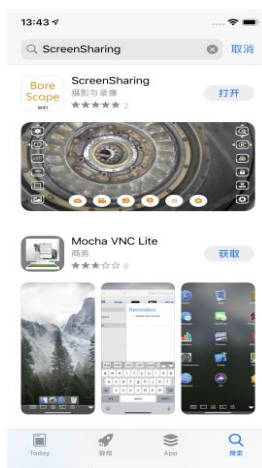

Figure 8-31
1. Download and install the "ScreenSharing" APP from the App Store (as shown in Figure 8-31) :